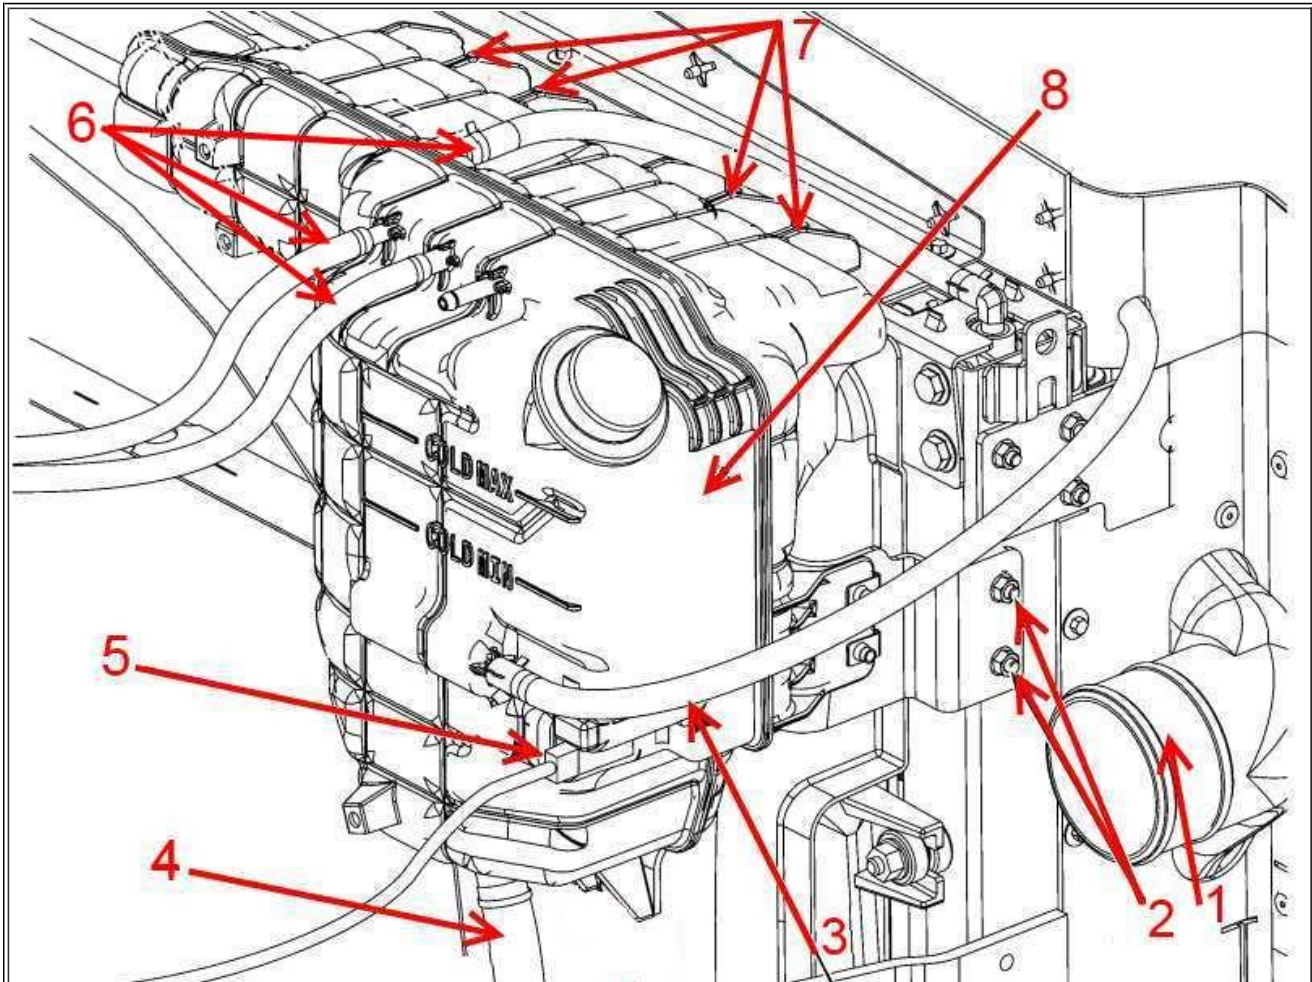

Figure 3: Deaeration Tank Assembly
5. Loosen the clamp and remove the driver side HP CAC inlet pipe (**Figure 3**, Item 1).
6. Remove the 3 or 4 deaeration lines from the tank (depending on configuration. **Figure 3**, Items 3 & 6).
7. Disconnect the engine harness from the Engine Coolant Level Sensor (**Figure 3**, Item 5).
8. Remove the deaeration tank return hose (**Figure 3**, Item 4).
10. Remove the two nuts securing the mounting bracket to the radiator (**Figure 3**, Item 2).
11. Remove the four nuts securing the top of the tank to the radiator (**Figure 3**, Item 7), and remove the deaeration tank.